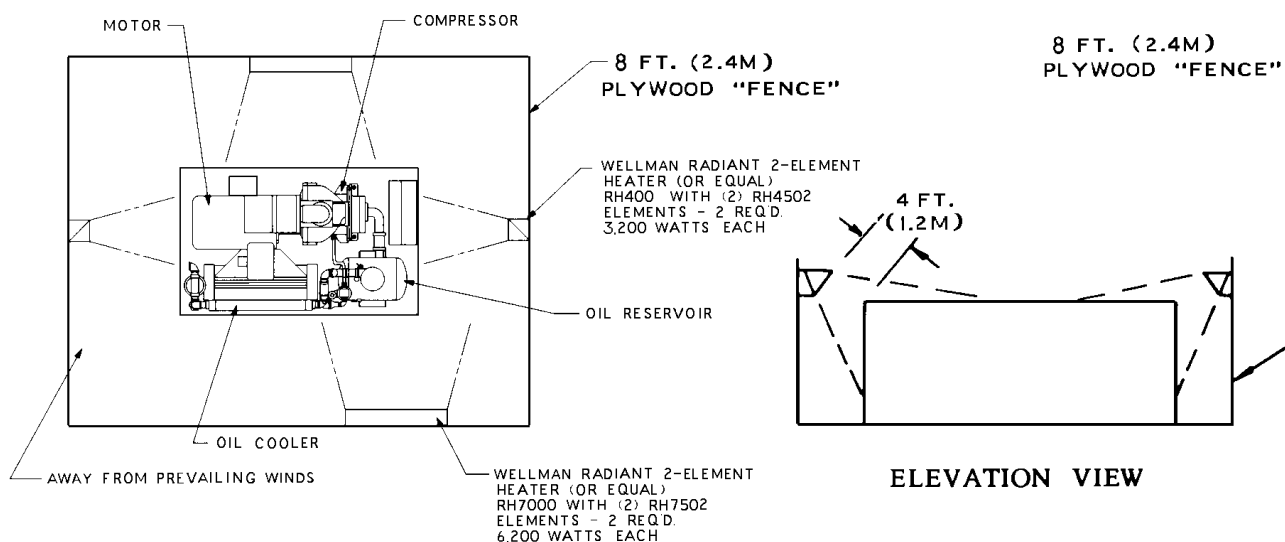

Figure 2-3 – COLD WEATHER INSTALLATION
INSTALLATION FOR COLD WEATHER OPERATION (Figure 2-3, page 14) - It is recommended that the unit be installed inside a shelter that will be heated to temperatures above freezing (32°F, 0°C). This will eliminate many of the problems associated with operating units in cold climates, such as freezing in control lines and downstream of the cooler.
3. Some means of providing heat during shutdown should be provided. There are various methods to accomplish this, but since openings are not provided for sump heaters, the use of radiant heaters is recommended. The heaters should be sized to provide at least a +10°F (-12°C) environment for coolers, motor and sump. Figure 2-3, page 14, this section, shows how these might be located in a typical installation and sizes required.